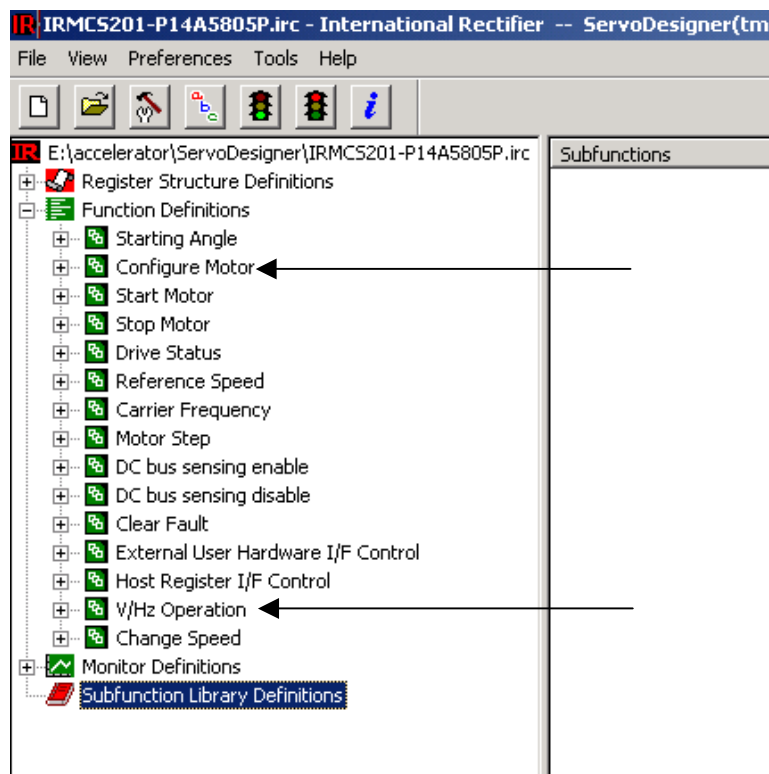

Figure 20. ServoDesigner Functions
- Execute the Configure Motor function by clicking the toolbar button (hammer and wrench icon) or double clicking the Configuration Motor function in the tree view (as shown in Figure 20).